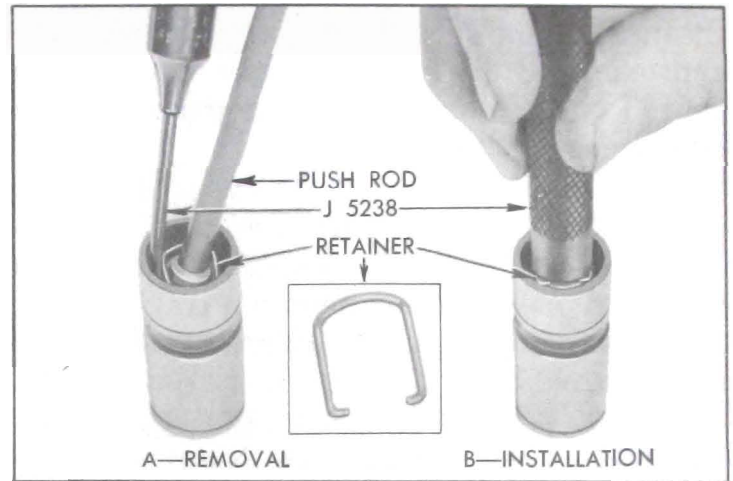

Figure 2-22—Removing and Installing Plunger Retainer
1. Disassemble each valve lifter by using a push rod to hold down the push rod seat while removing the plunger retainer from the lifter body, using Retainer Remover J 5238. See figure 2-22, View A. Remove push rod seat and plunger from lifter body.
engages groove in body. See figure 2-22, view B.